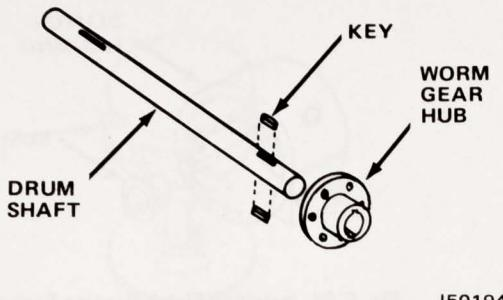
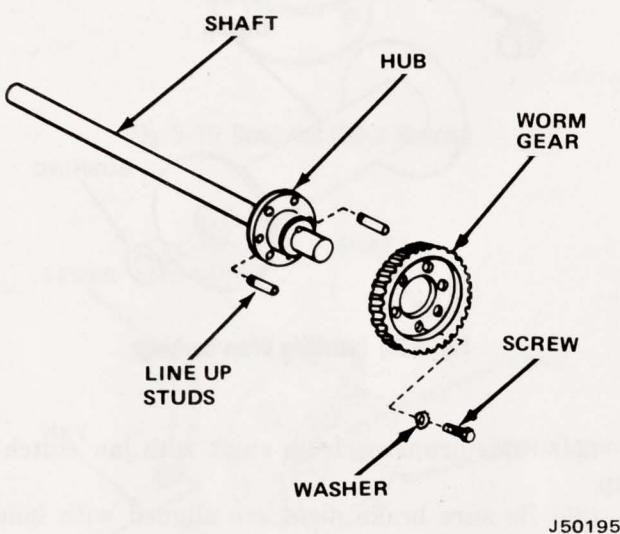

Fig. 5-30 Installing Worm Gear Hub on Drum Shaft
Fig. 5-31 Installing Worm Gear
(5) Install keys on shaft (fig. 5-30).
(6) Paint short end of shaft and keys with white lead up to back side of keys. Align keyways in hub with keys in shaft and press hub on shaft with long boss of hub toward short end of shaft. Press until hub is centered on keys.
(7) Screw 5/16-18 studs into hub (fig. 5-31).